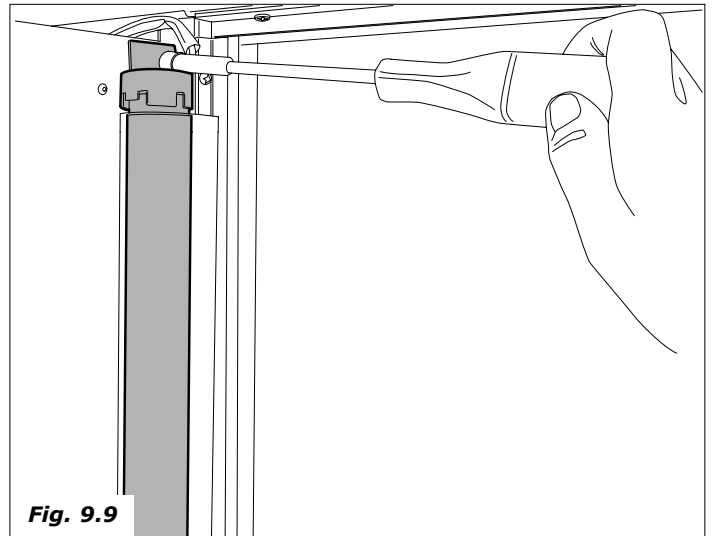

Fig. 9.9
- loosen the fixture screws of the glass section (Fig. 9.9).